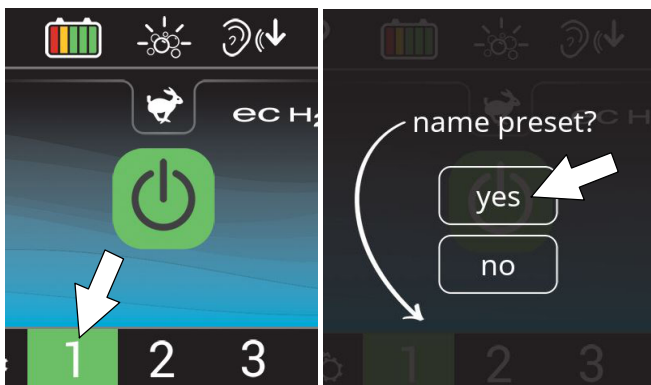

FIG. 70
2. Then press and hold a zone button until a screen prompts you to name the new preset zone. Select “yes” to name the preset zone (Figure 70).